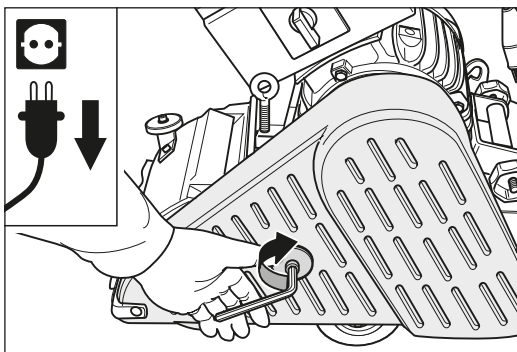

Fig. 86 Close the belt guard.
- 9 After you have replaced both lateral wheels, close the belt guard (fig. 86).